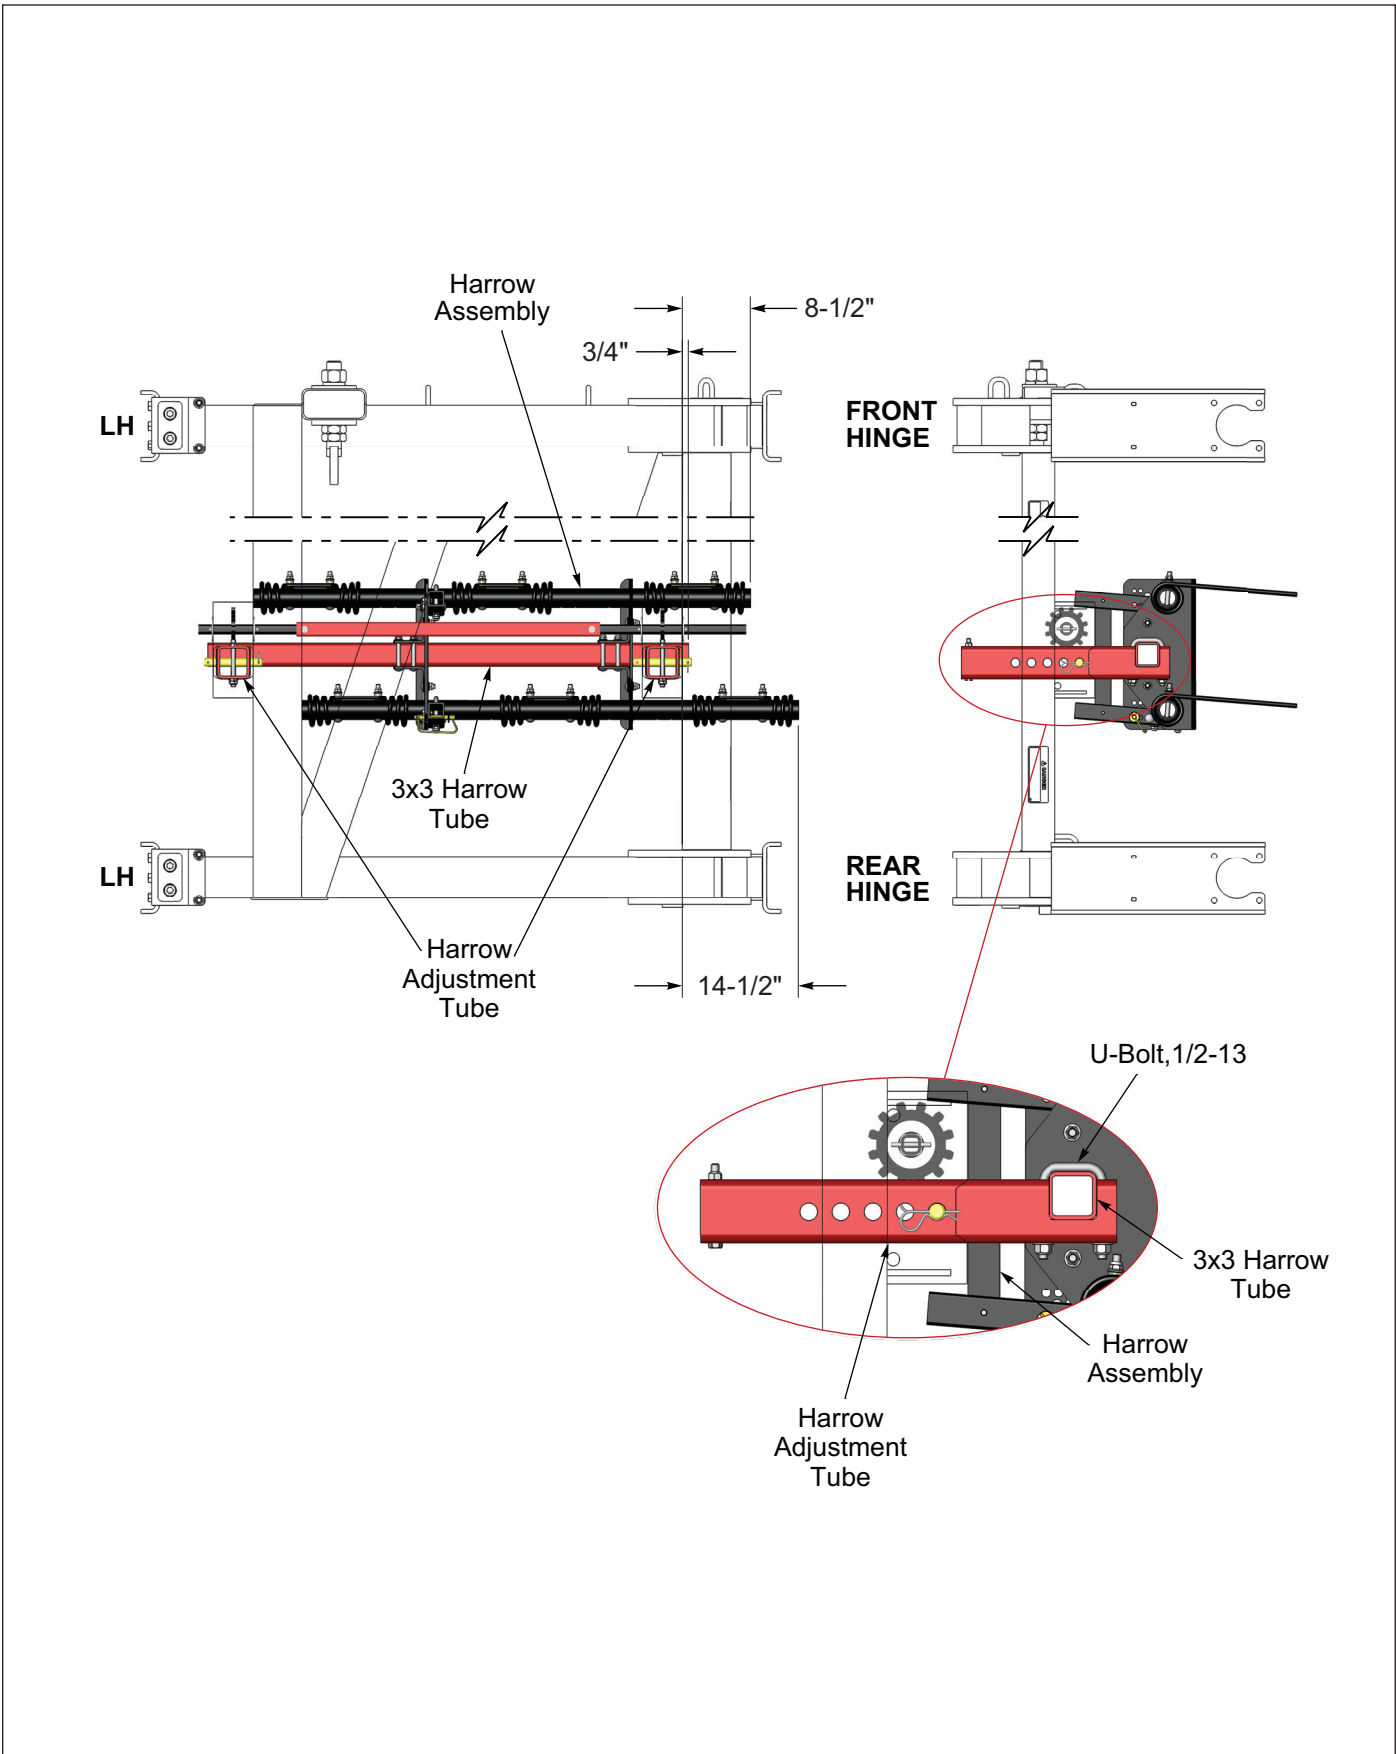

Figure 2-62: Left Hand Wing Harrow Dimension
2. Lift Harrow Assembly and slide the Harrow 3 x 3 Tube into the cut-out portion of the Harrow Adjustment Tube and insert a 1/2-13 U-Bolt on each side. Check Harrow position in relation to the Frame and secure with Flat Washer and Locknut. **See Figures 2-62 and 2-63.**